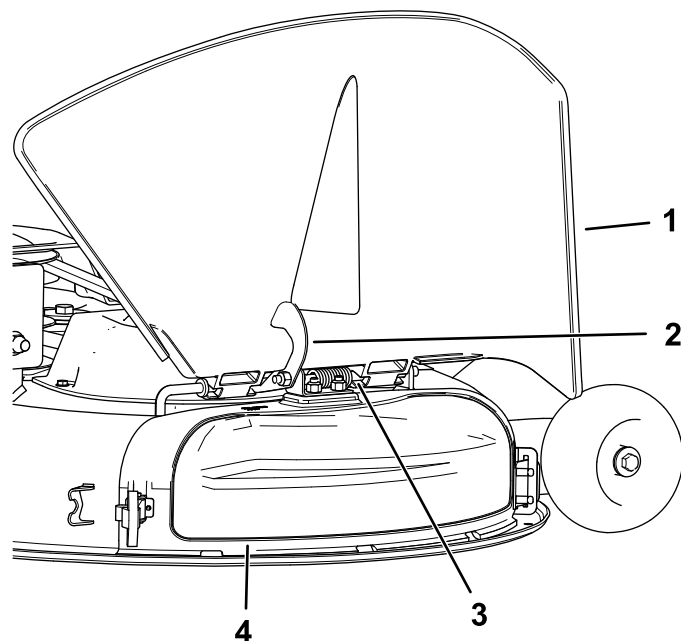

Figure 16
4. Release the hook-shaped latch on top of the discharge cover from the pivot rod (Figure 16).
- On the top of the discharge cover, engage the hook-shaped latch around the pivot rod of the deflector assembly (Figure 16).